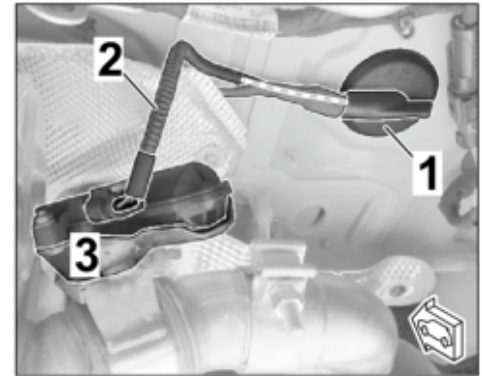

Figure 20
3.3.4 **ONLY** if a grommet with several lines is installed on the underside (including an exhaust flap branch (left/right of the standard rear silencer ⇒ *Figure 20*):